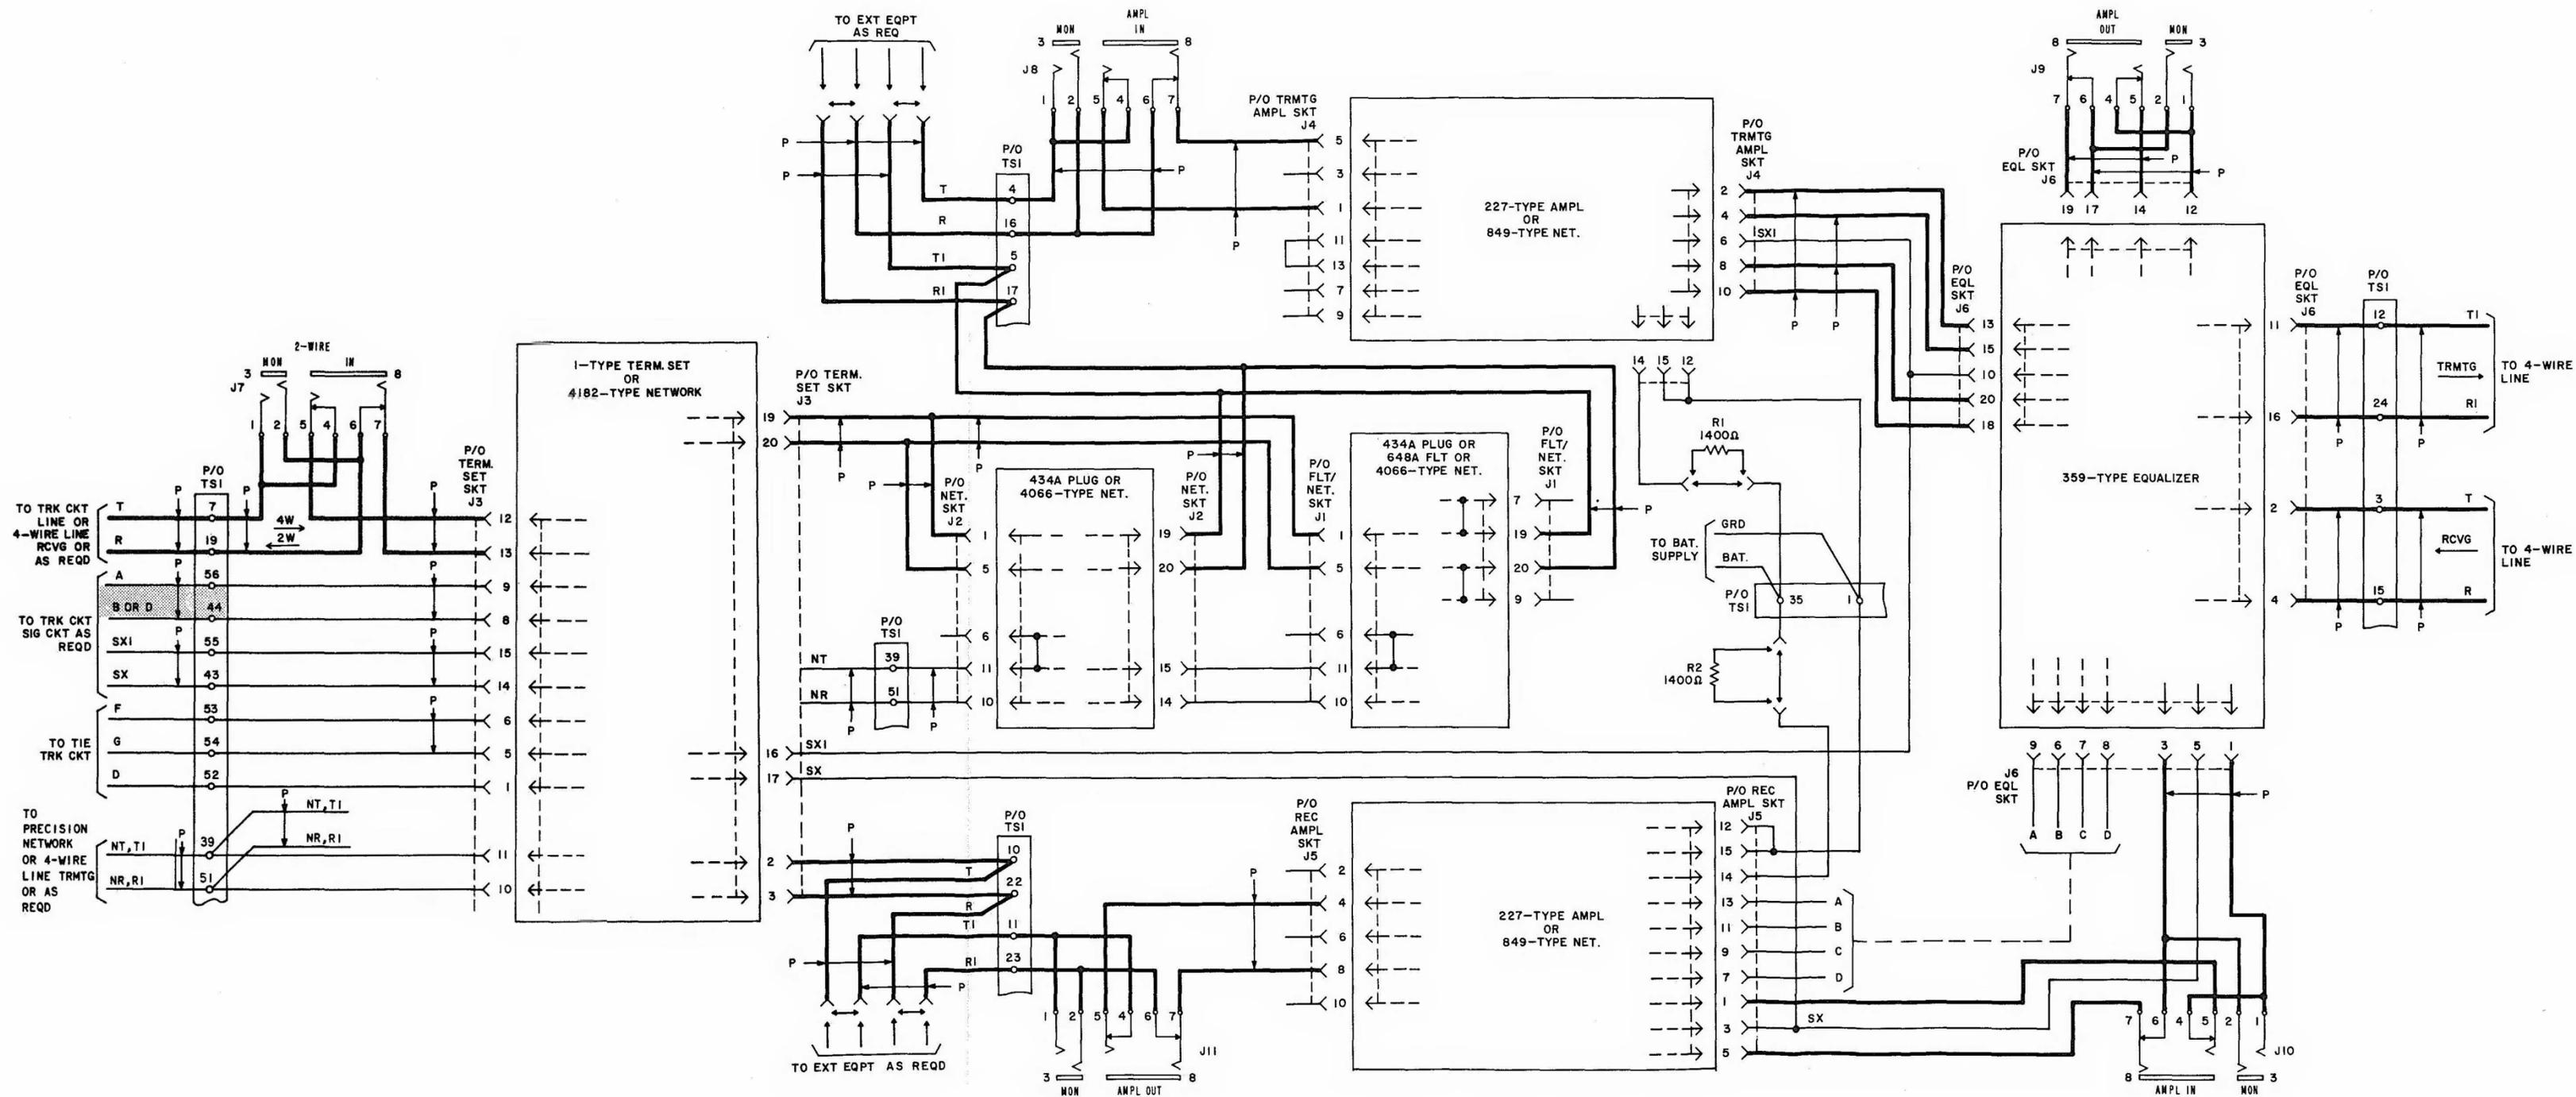

Fig. 3—24V4C Repeater Connecting Circuits—Block Diagram
1.002 This addendum is issued to correct lead designations on TS1 of Fig. 3, 24V4C Repeater Connecting Circuits—Block Schematic.
3.01 Figure 3 is a block schematic of the 24V4C repeater illustrating connector sockets, test jacks, and terminal strip connecting circuit wiring. These circuits are factory wired as part of the